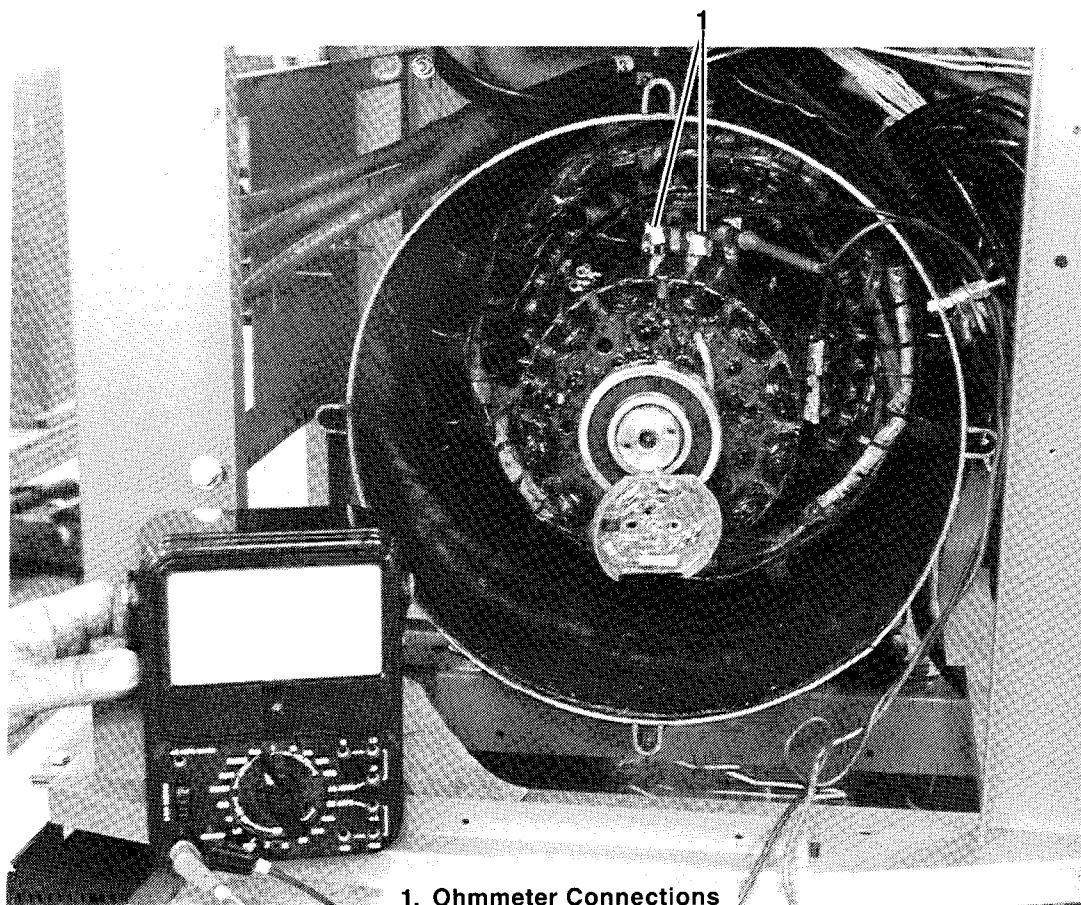

Figure 4-13. Field Continuity Check
2. With an ohmmeter check for continuity across F3 and F4 or F+ and F- (see Figure 4-13).